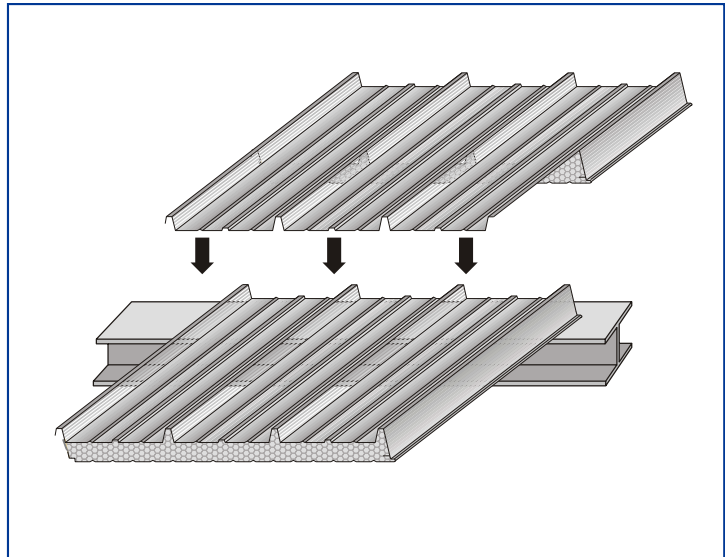

Fig. 17
4.1.4.12 When the first strip of panels has been installed, proceed with the second strip, overlapping the panels in the way shown in (Fig.17) .